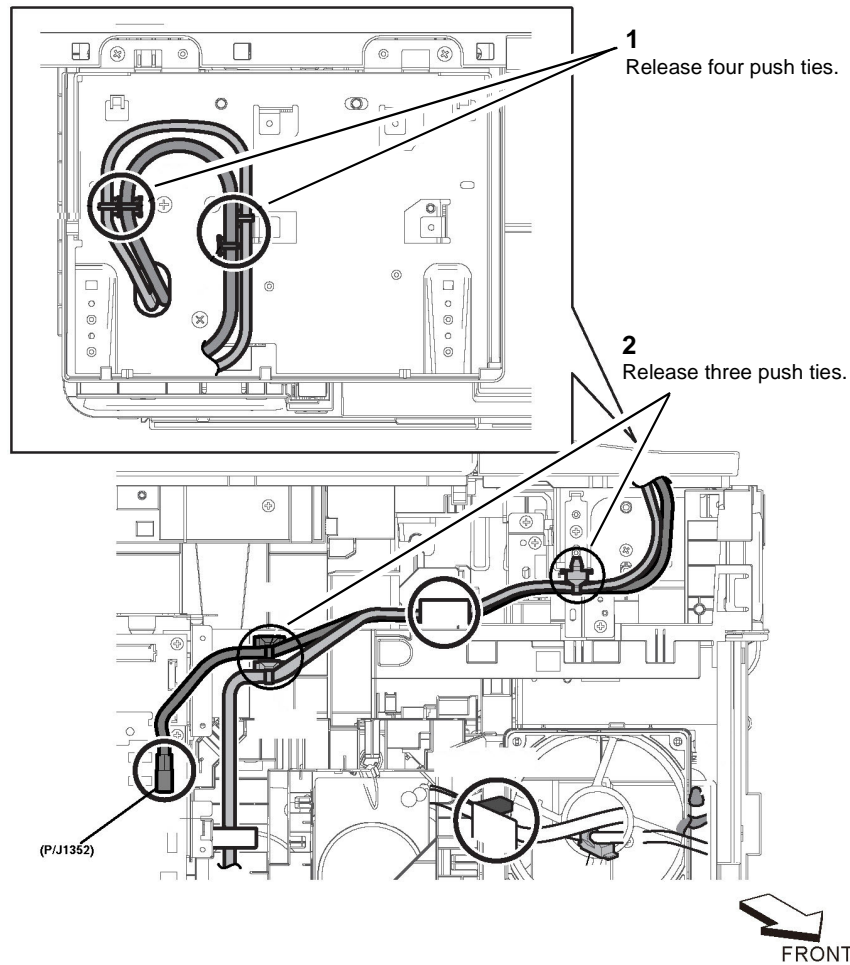

Figure 1 UI harness
- Disconnect the UI harness from the ESS PWB, P/J1352, Figure 1.
- Release four push ties (1) attaching the harnesses to the top cover, Figure 1.
4. Release three push ties (2) holding the speaker harness, then release the harness, **Figure 1**.